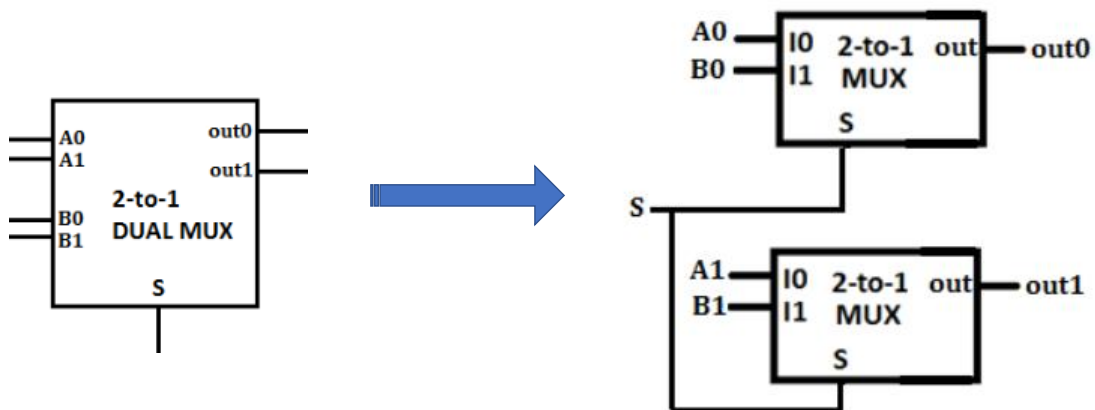

Figure 3: 2-to-1 Dual MUX
- d) Implement the 2-to-1 Dual MUX using **structural** Verilog code in a module named “dualmux” inside the “dualmux.v” file by instantiating two instances of module “mux1” connected as shown in Figure 3. This module has five inputs (A1, A0, B1, B0, and S) and two outputs (out1, out0).